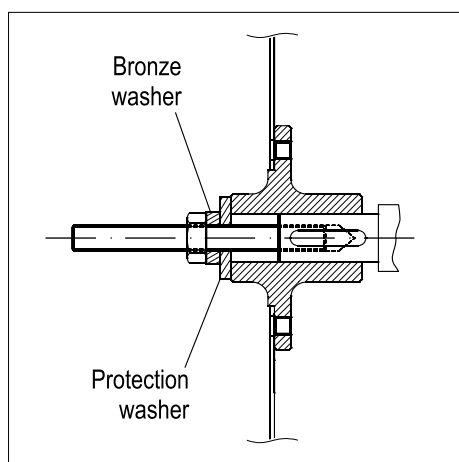
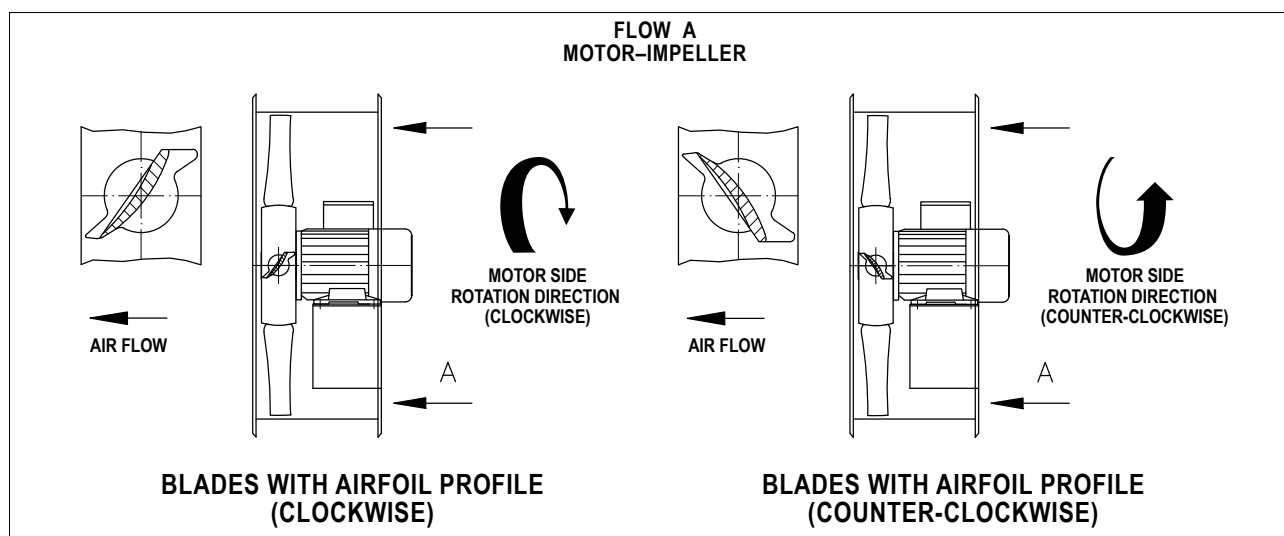
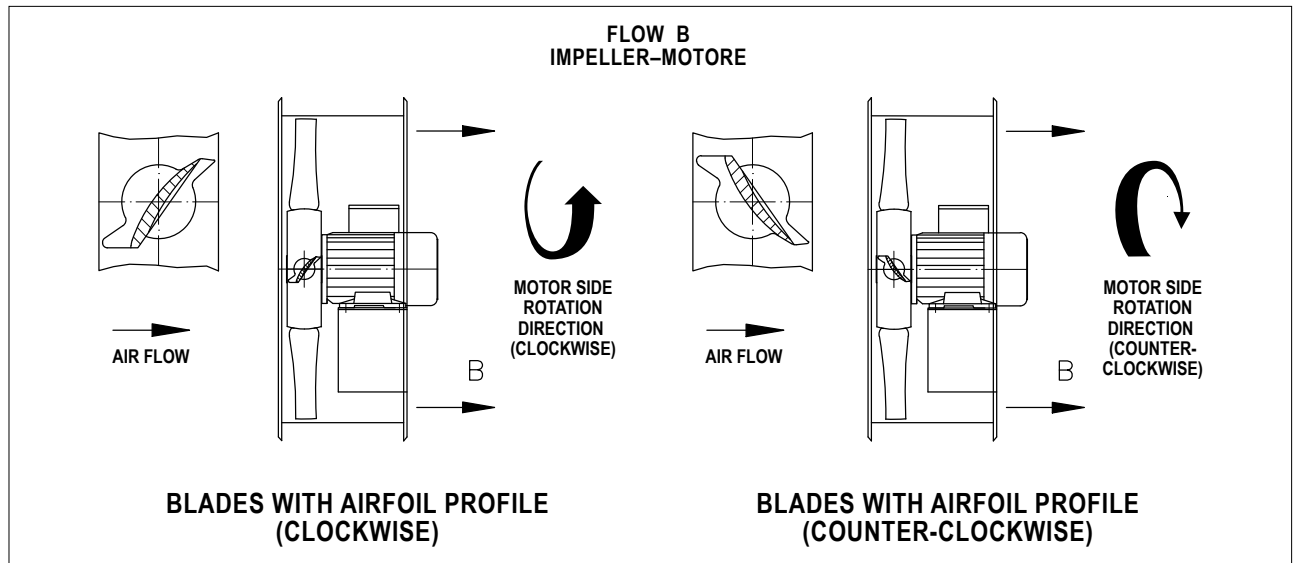

FIG. 17 (Assembling)
FIG. 19 (Flow "A")
FIG. 20 (Flow "B")
5.4.2- Assembling and disassembling the “simple suction” and “axial” impeller (FIG. 17÷FIG. 20)
- 2) Insert the screw with a protection washer and screw the nut on the screw in order to push the impeller against the shoulder and fasten it (**s. FIG. 17**).
N.B. For the axial fans, verify the correct direction positioning of the impeller (see assembling instructions FIG. 19 and FIG. 20).